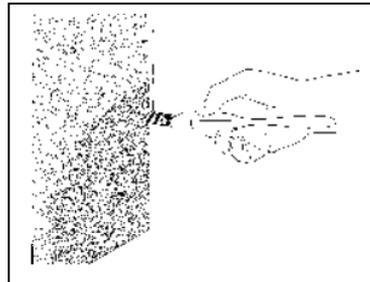

Figure 28. Applying Edge Sealer
6. Pull the dauber or brush along the edge in a smooth, continuous motion. Make sure the entire edge is covered with no gaps. See Figure 28.